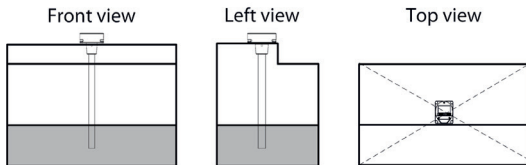

Figure 1. Selection of the installation place for Omnicomm LLS 5 sensor
- Installation location should be as close as possible to the geometric center and placed at the deepest level of the tank (Figure 1)